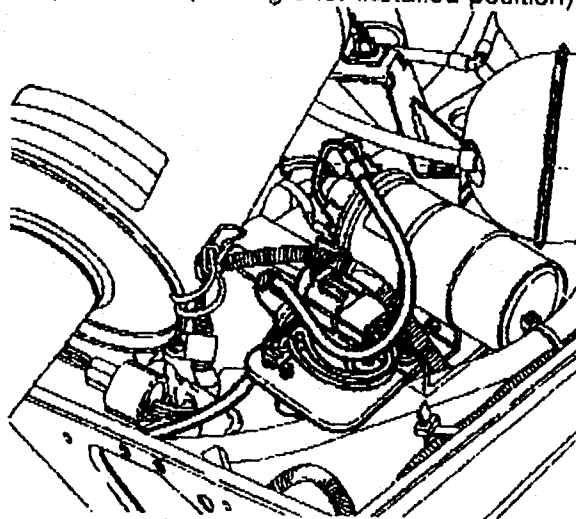

FIG 3
11) Fit the heatsink bracket beneath the coil. Re-mount the coil and heatsink bracket to the inner wing. Connect the two connectors of the fly lead to the ignition coil. (See fig 3 for installed position).